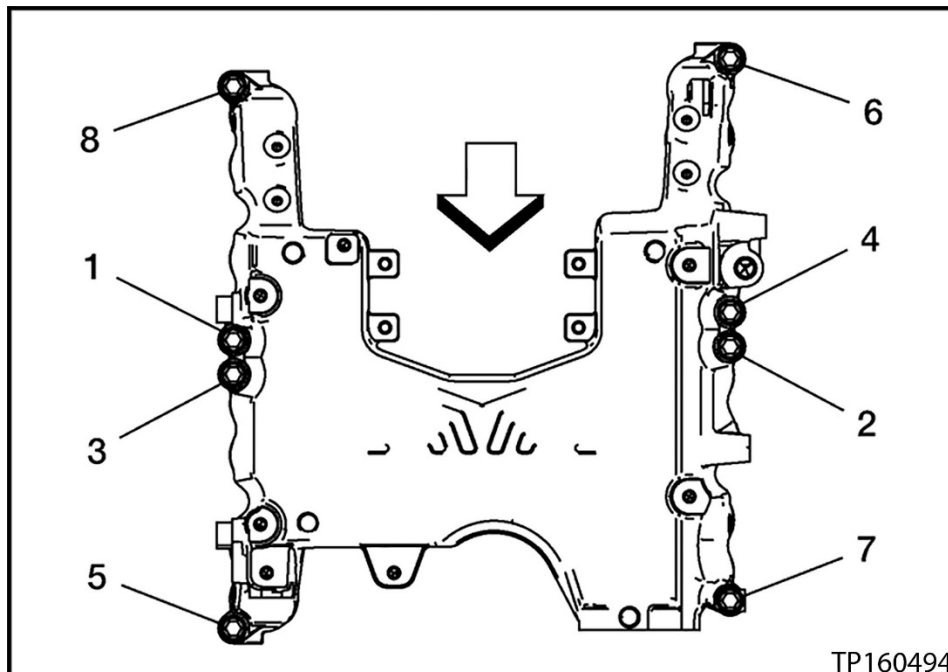

Figure 84
- See Figure 84 for torque sequence.